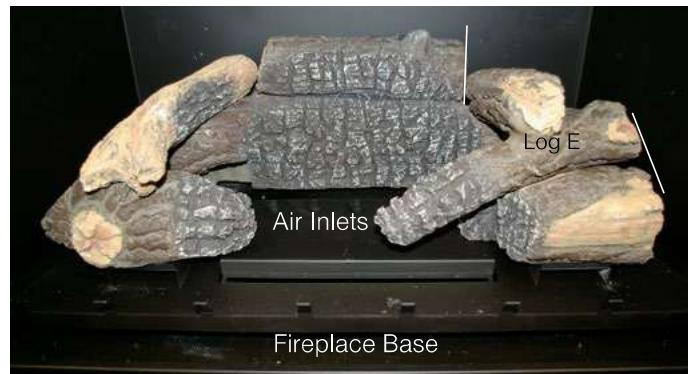

Figure 9e. Top Right Log, (Log E)..
Step 6. Place Front Right log (Log E) as shown in **figure 9e**.